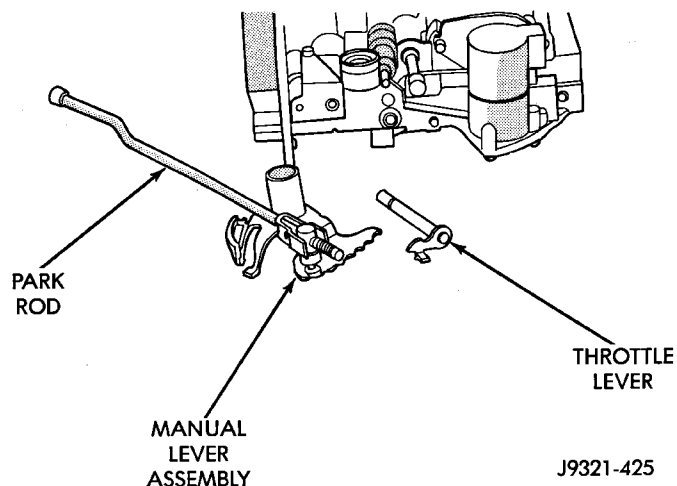

Fig. 50 Manual And Throttle Lever
(17) Remove manual lever and throttle lever (Fig. 50). Rotate and lift manual lever off valve body and throttle lever shaft. Then slide throttle lever out of valve body.